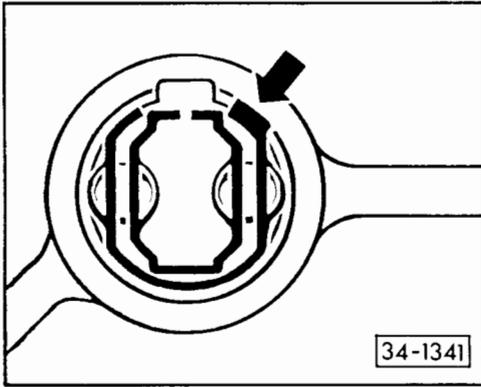

Fig. 5 Removing and installing gearshift rail bearing
- Removing and installing – Fig. 5